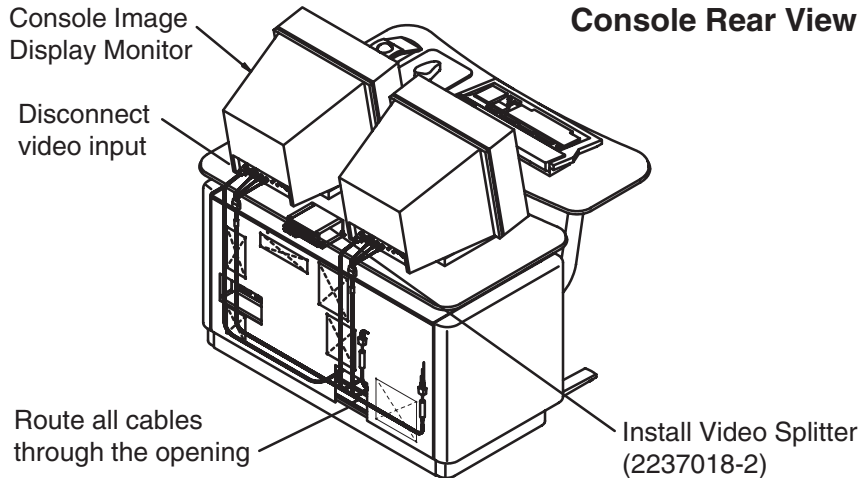
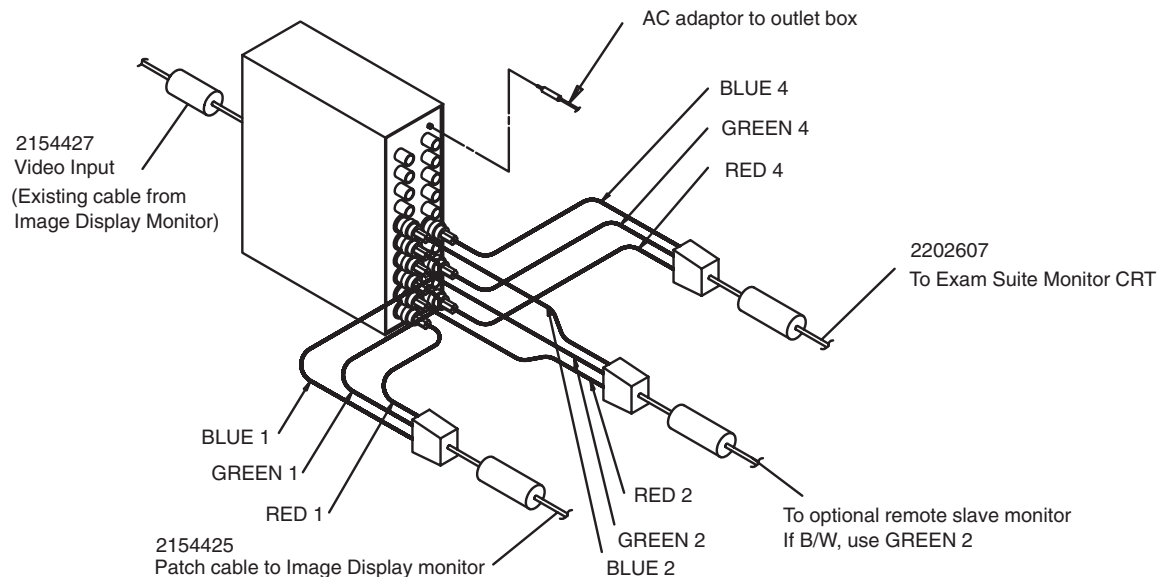

Figure 1-7 Rear View of Console with 4-Way Video Splitter Installed
Figure 1-11 Attach CRT Video Cable to 4-Way Splitter
- 2.) Refer to Figure 1-7.
- 6.) Refer to Figure 1-7 and Figure 1-11.